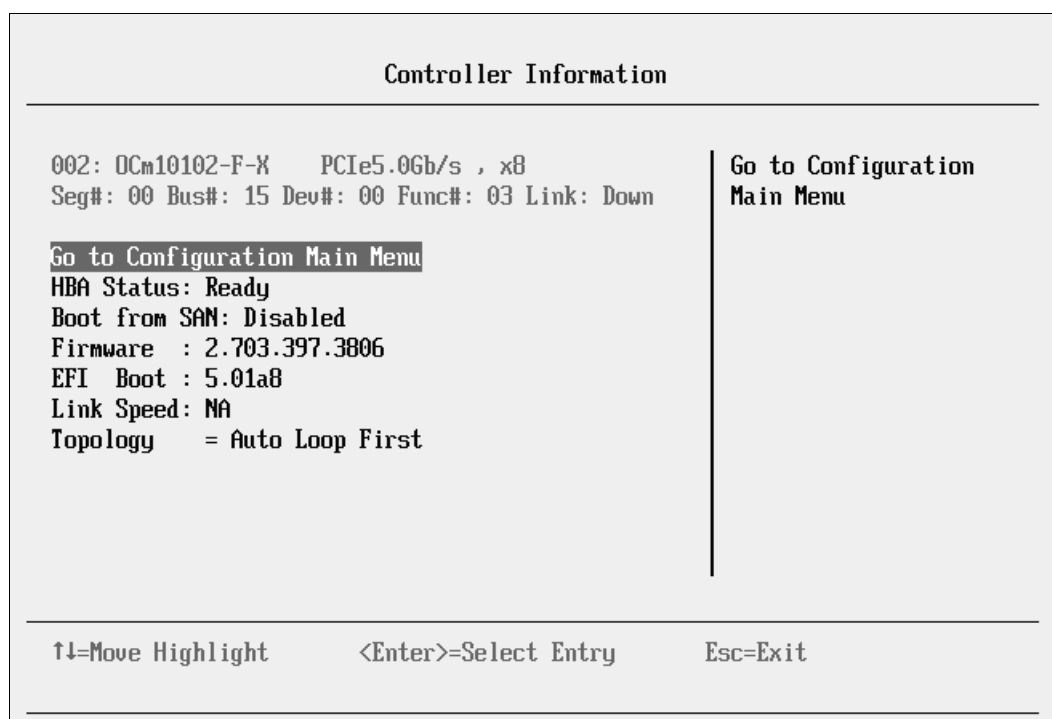

Figure 9-120 Controller Information window
4. In the Controller Information panel (Figure 9-120), review the firmware information, and ensure that you are using the latest code levels that are certified by your SAN vendor. Then press Esc.